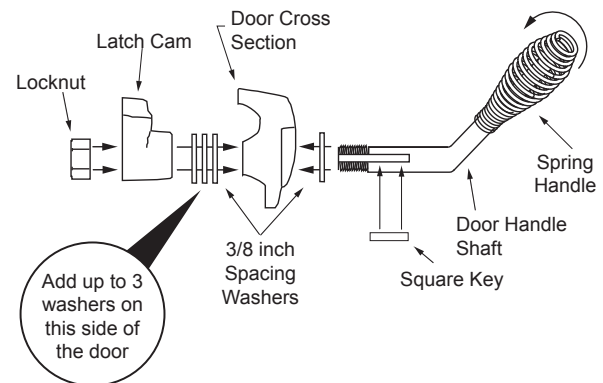

Figure 27.3 - Formed Door Handle with Spring
3. Add up to three washer as shown in **Figure 27.3** on the inside of the door.
7. Install handle turning in a counter-clockwise motion to desired location on door handle rod (**Figure 27.3**).